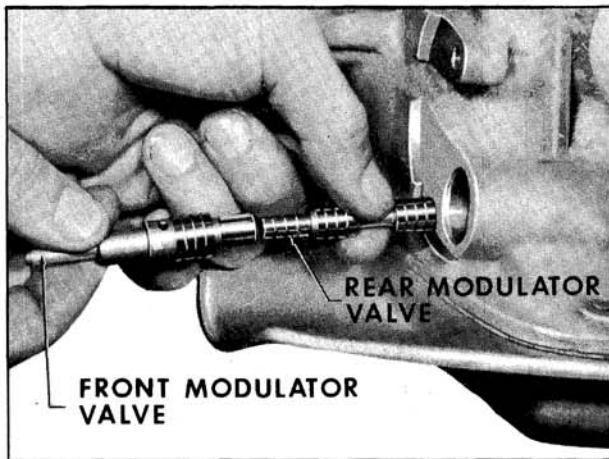

Fig. 6-544 Installing Modulator Valve
1. Slide rear modulator valve into front modulator valve, then install into bore in case. (Fig. 6-544)